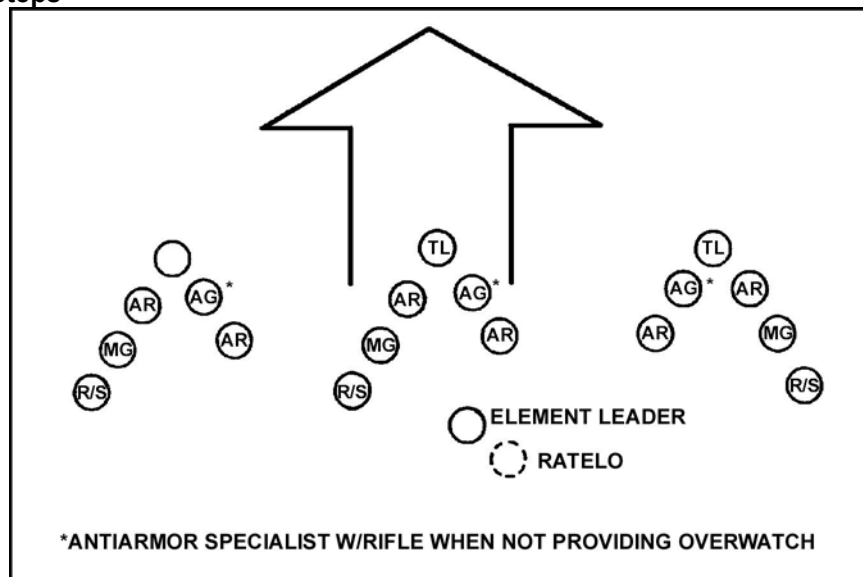

Figure 2. Dismount element line.
- Select the dismount element line to assault an objective and designate the base fire team (Figure 2). In this formation, the dismount element can deliver maximum fire to the front but little to the flanks.